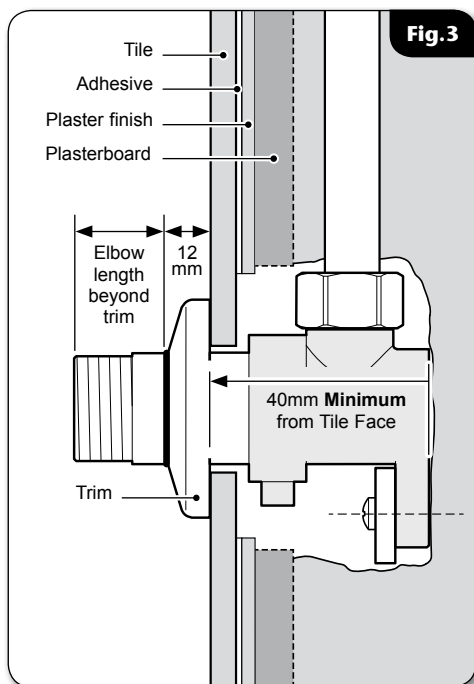

Fig. 3
- When fitting the bracket **make sure there is an available building-in depth of at least 40mm from the tile face (fig.3)**. This should be measured from the face of the wall to which the bracket is screwed.
NOTE: When determining the building-in depth, consideration should be given to the length of elbow that is to show beyond the trim (the trim depth is approximately 12mm) (**fig.3**).